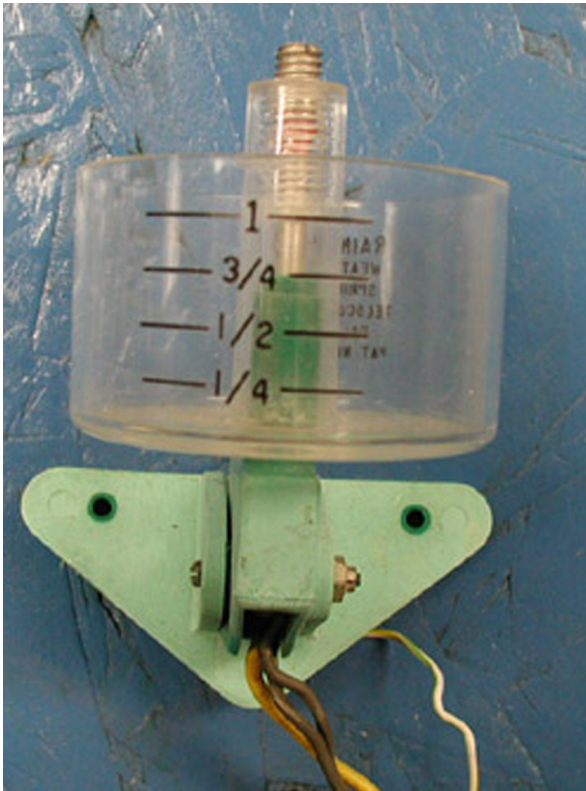
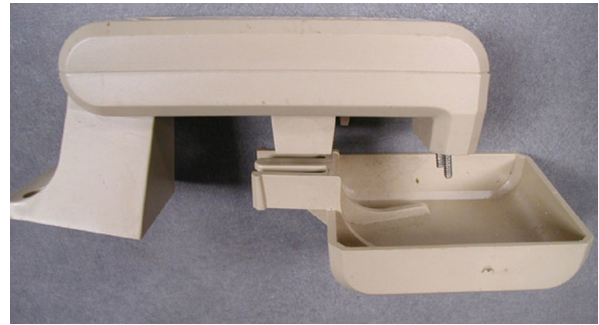

Figure 1. Weight-based rain shut-off device.
Figure 2. Rain shut-off device based on electrical conductivity.
**Water weight** -- When a preset weight of water is collected in a small dish, the connection to the automatic irrigation valve is interrupted until the dish is emptied or a portion of water evaporates reducing the weight below the critical level. A disadvantage of this device is that any other weight (debris, frogs, etc.) can turn off the irrigation system and it requires more maintenance (Figure 1).
type, water may have to be removed from the dish, and debris may create some problems (Figure 2).
Your Sprinkler System). At least three containers should be located in the yard such that rainfall can accumulate freely in these containers. Measure the depth of water in each container with a ruler, and calculate the average of the measurements. When the containers average 1/2 inch of rainfall, set the rainfall sensor to 1/2 inch and manually initiate the irrigation system at the controller. The system should not operate. If this is the case, the rainfall sensor is adjusted properly. If the system runs, the rainfall sensor may have to be: 1) cleaned, 2) located so that rainfall will contact it, or 3) repaired or replaced. Sensors with electrodes (see Figure 2) may require cleaning of the electrodes and/or cleaning of the catch container. Sensors with a weighing dish or cup (see Figure 1) may require periodic cleaning of the container.